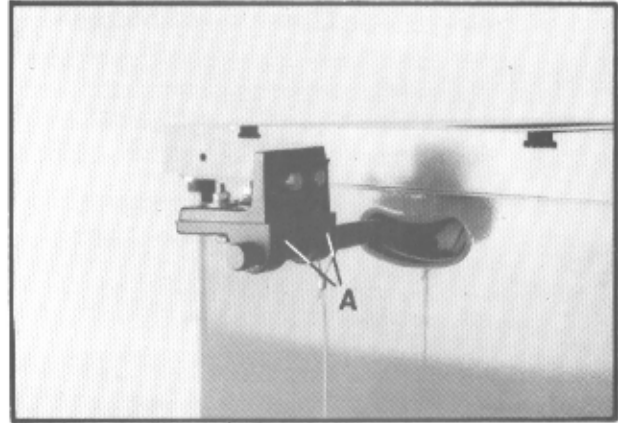

Fig. 4
2. Thread blade guard shaft into rear trunnion through opening at rear of saw. (Fig. 4).
4. Place upper and lower bracket assembly in the upright position and tighten two set screws (A, Fig. 4) just enough to hold in place. Do not tighten firmly at this time.